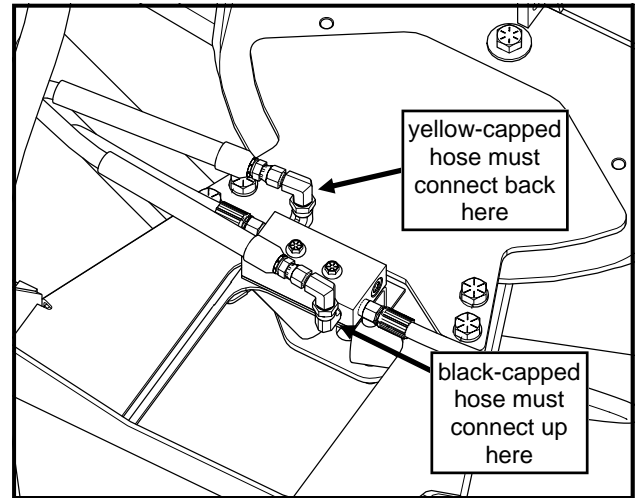

Fig. 6.2—Quick-Disconnect Hoses
- 6.2** Study fig. 6.2. Hint: to help determine that you have the correct hose, hold the black-capped hose steady while moving the yellow-capped hose back and forth to confirm hoses. Reference: both hoses will be coming in from the left side of fig. 6.2. Connect the yellow-capped hose exactly where shown. Connect the black-capped hose exactly where shown.